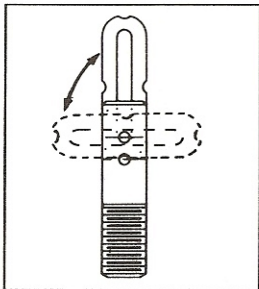

Figure 16a.
- a. Make sure swivel-lock handle is positioned so that the handle is in line with the axis of the connector (Fig. 16a).